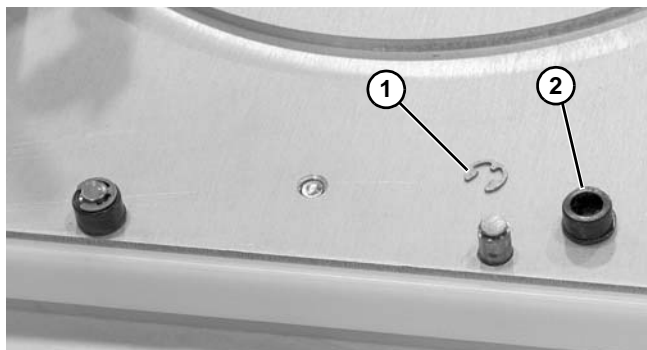

Figure 96
2. Remove retaining ring (**Figure 96, item 1**) and bearing (**Figure 96, item 2**).